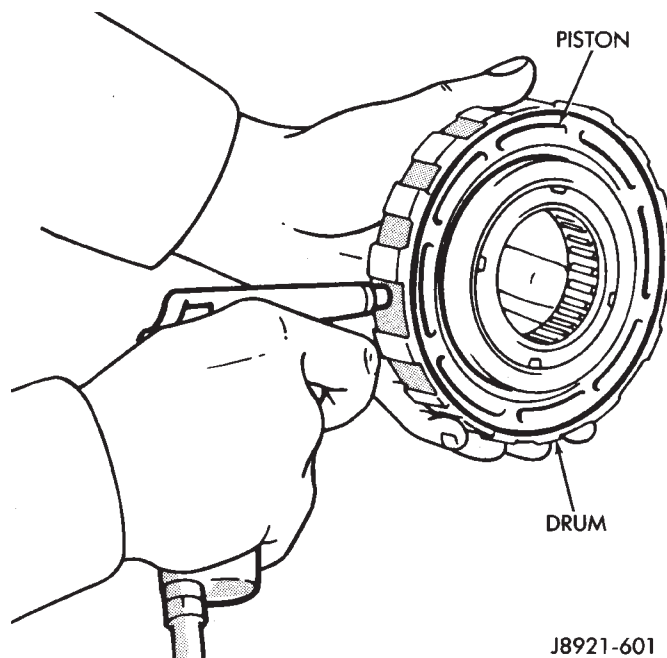

Fig. 7 Checking Second Brake Piston Operation
(3) Compress return springs with shop press and Compressor Tool 7538. Install piston snap ring and remove brake assembly from press.
(4) Check brake piston operation with low pressure compressed air (Fig. 7). Apply air pressure through feed hole in drum. Piston should move smoothly when applying-releasing air pressure.